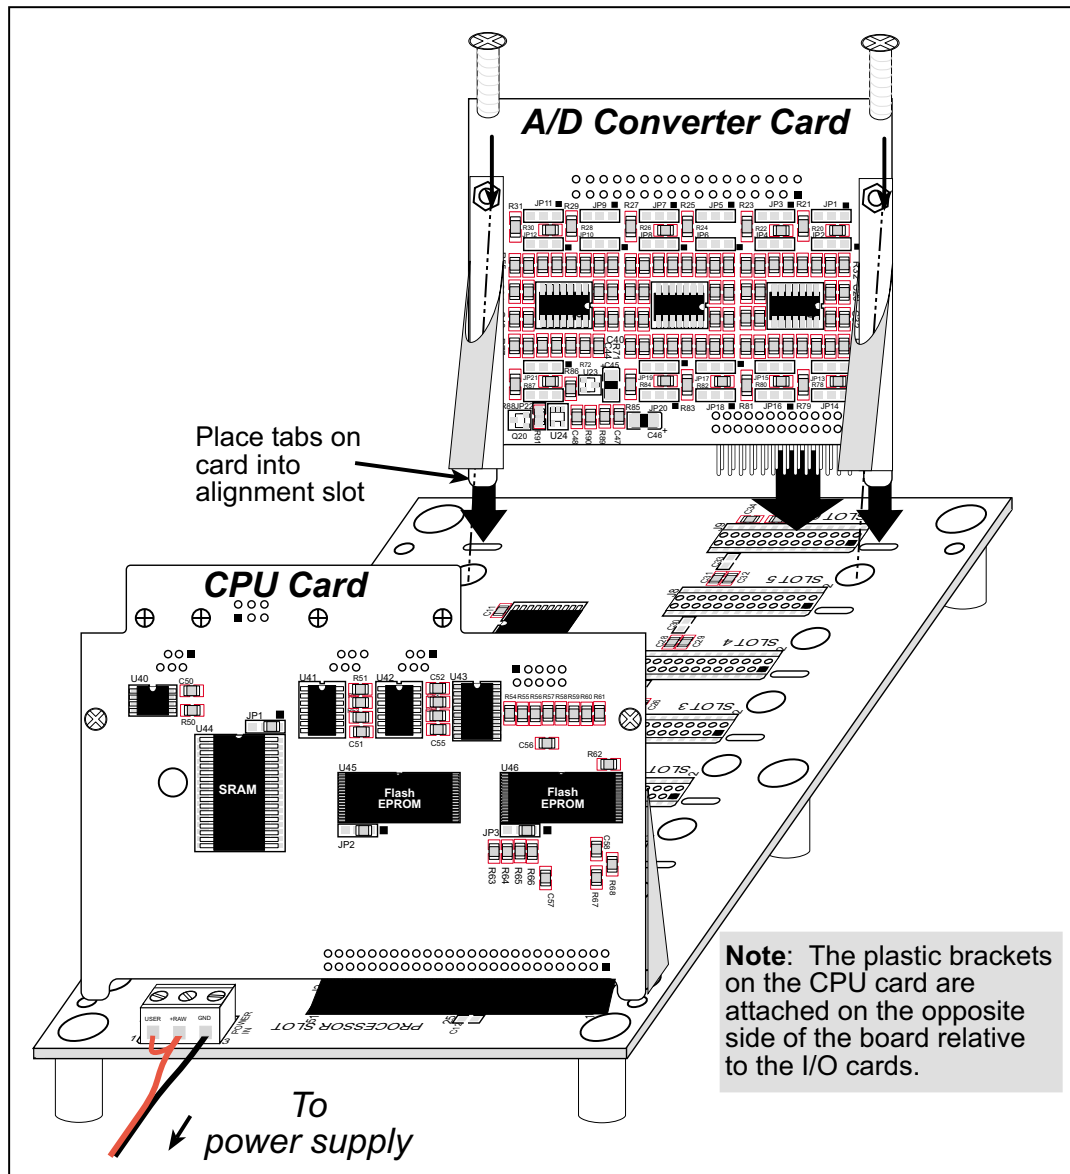

Figure 1. Installing A/D Converter Cards on the Backplane
1. Orient the backplane with the CPU card already installed and facing towards you as shown in Figure 1.
2. Position the A/D converter card above the backplane over any unused slot position (**SLOT 0** to **SLOT 6**) as shown in Figure 1. Note the slot number and the type of I/O card since Dynamic C addresses the I/O cards by slot number.
3. Carefully insert the A/D converter card header into the slot on the backplane and line up the tabs on the card with the slots on the backplane as shown in Figure 1.